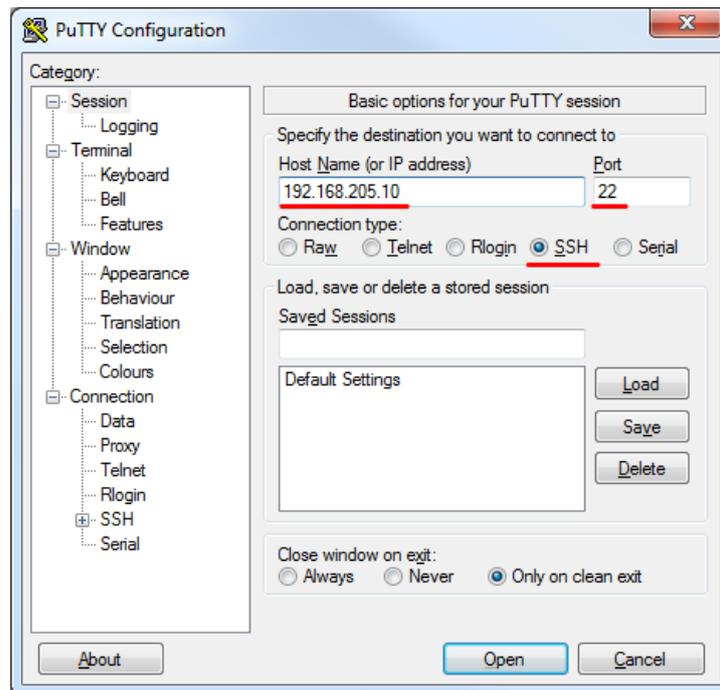

Figure 4-5 PuTTY interface for SSH connection
- 1) Open *PuTTY*, choose "Connection Type": "SSH", enter the IP address, and make sure that the correct port number is used ("22" by default), see *Figure 4-5 PuTTY interface for SSH connection*: